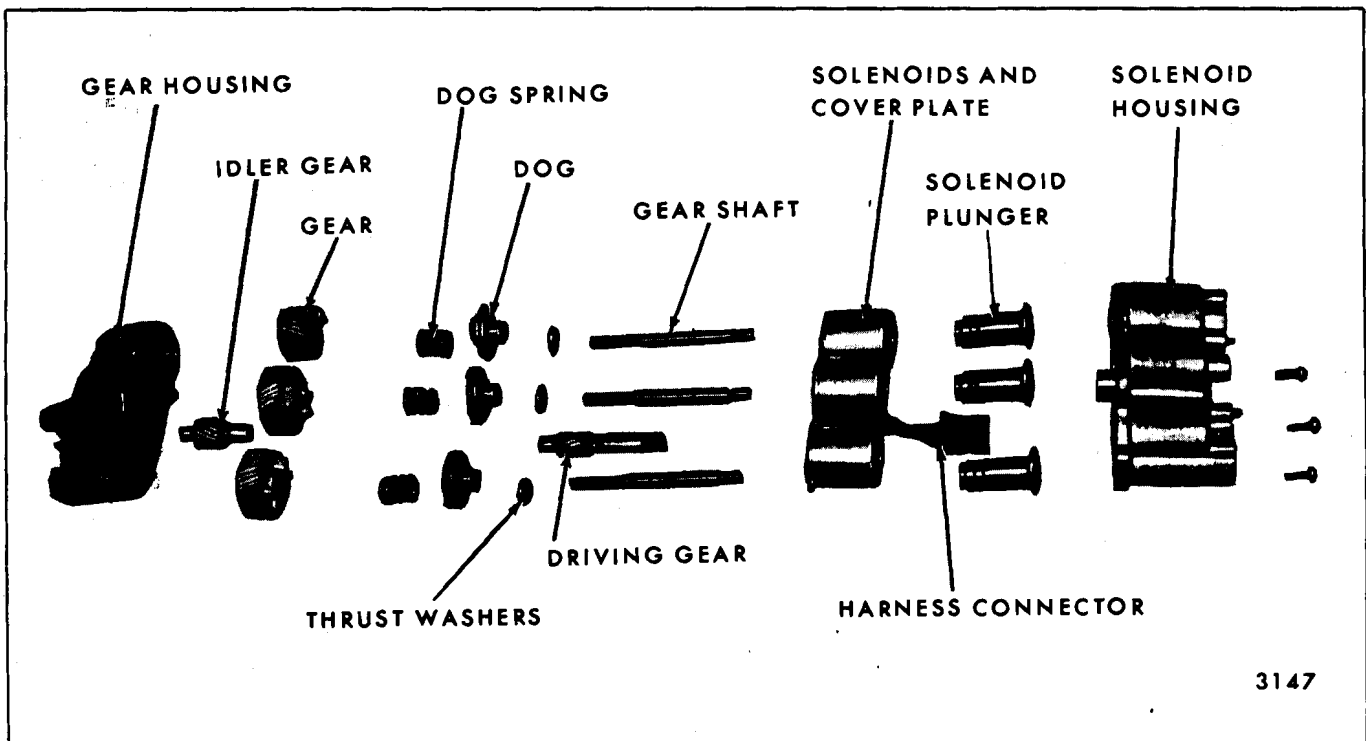

Fig. 14-22-Six-Way Seat Adjuster Transmission - Disassembled - Pontiac, Buick, Oldsmobile and Cadillac 60-40 Seats
- Remove screws securing solenoid housing to gear housing; then, carefully separate housings and remove component parts of transmission assembly (Fig. 14-22).